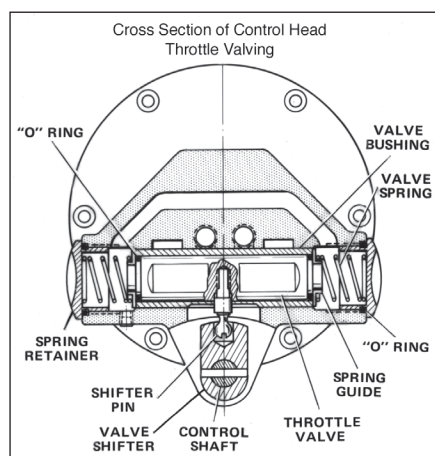
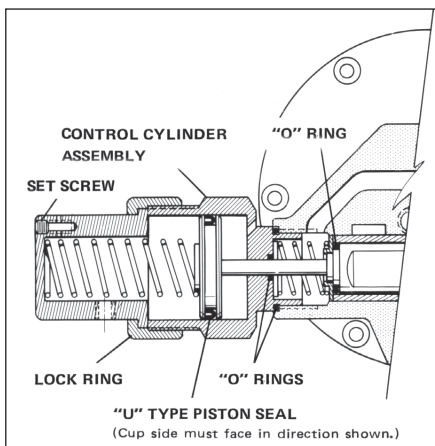

Figure 22 - Section View Showing Assembly of Throttle Valve, Springs and Valve Shifter in Control Head
Figure 23 - Section View Showing Assembly of Control Cylinder on Control Head (Pendant Throttle Control Models)
3. On pendant throttle control models, remove control cylinder assemblies from each side of control head housing *figure 23). On pull cord control models, remove throttle valve spring retainer caps from each side of housing (figure 22). Valve springs, spring guides and "O" ring seals can now be removed from valve bore at each side of housing.
4. The throttle valve is retained in the control head by the valve shifter pin. The pin is assembled with Loctite on the threads and should not be removed for routine servicing. If valve is to be removed, use a hex key to remove pin from bottom of throttle valve (See Figure 22). The valve can now be removed from bushing in housing. The throttle valve bushing is pressed into place and honed to provide a .0001 to .0003 inch clearance with valve. If bushing is scored, worn, or otherwise damaged, the housing and bushing assembly should be replaced along with the valve.
1. Lightly oil throttle valve and bushing with SAE 20 oil. If shifter pin was removed from valve, assemble valve with threaded hole facing slot at bottom of bushing in housing (Figure 22). Shifter pin should be assembled with loctite (277 or equivalent).. Extreme care must be taken not to get any loctite on valve outside diameter since this will lock up valve and scrap the complete head assembly.
3. At reassembly of control cylinders (pendant throttle control models), use new "U" type seals on piston heads and "O" ring seals on piston stems. Be sure "U" type seals face direction illustrated in Figure 23.